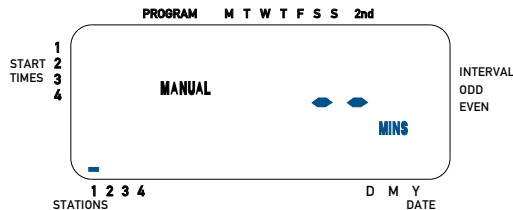

Figure 11: Manually Running Individual Stations
- Press the **MANUAL** key. Then press **NEXT** three times. The display will show a blinking cursor on station 1 along with --MINS. [See Figure 11]